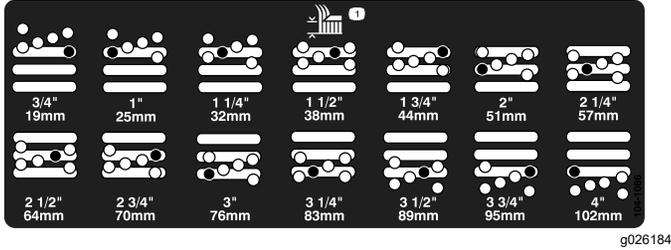

Figure 18
- Move the chamber to the desired height-of-cut and install a spacer into the designated height-of-cut hole and slot (Figure 18).